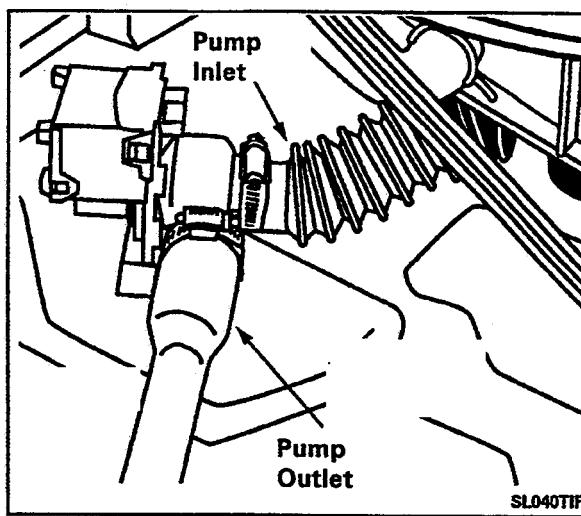

*Figure 2-22*
5. Rotate the pump assembly in a counter-clockwise direction. The support legs of the pump are slotted to engage in keyed slots in the base. Reverse the steps to remount the pump (*Figure 2-22*).